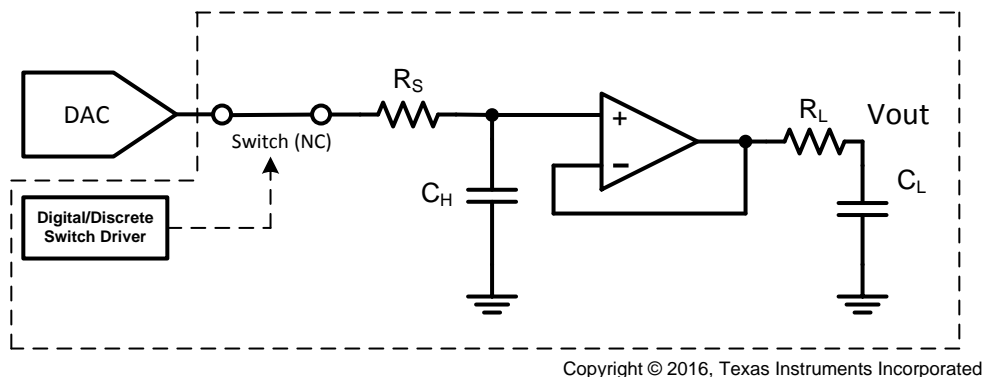

Figure 72. Simplified Sample and Hold Circuit
- In its simplest form, the sample and hold circuit can be constructed from the following components: a capacitive element, output buffer, and switch. A schematic of the simplified S&H is shown in Figure 72.